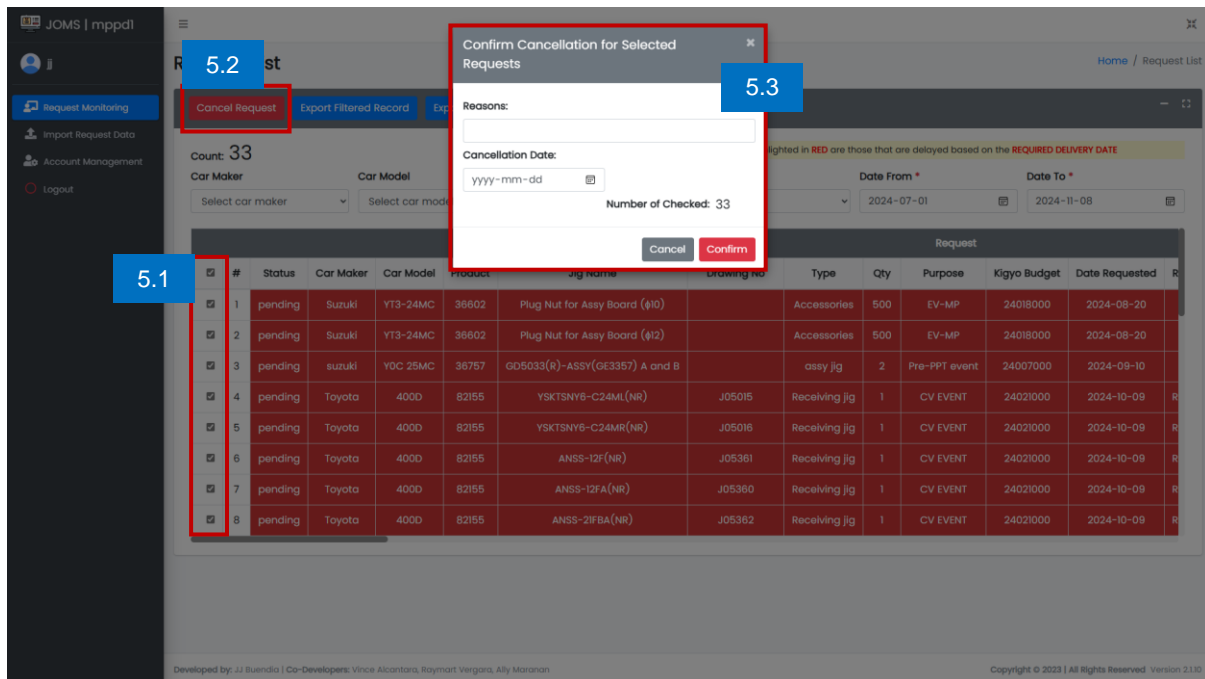

Figure 7. Cancellation Request
5.1 To cancel, select the checkbox of item that needs to be cancelled. (See Figure 7)
5.2 Click the Cancel Request button to show the Cancellation for Selected Request. (See Figure 7)
5.3 Provide cancellation reason and cancellation date then, click the Confirm button. (See Figure 7)